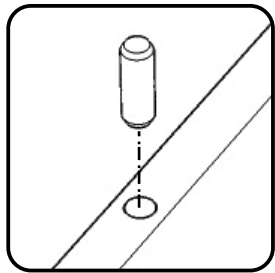

Figure 2
Insert Dowels into pre-drilled holes in Middle Panels (C) and (D). (See Figure 2)